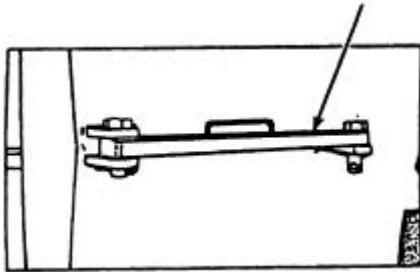
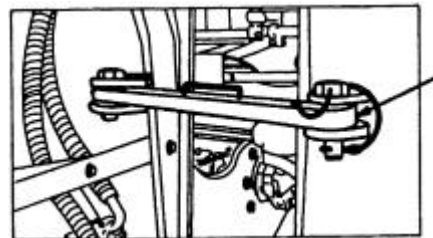

Fig. 3.1. Frame Locking Bar and Pins
Fig. 3.2. Frame Locking Bar and Pins
A frame locking bar and two pins (Fig. 3.1 and Fig. 3.2) - in stowed position are provided on the LH side of a loader. They are used to lock the front and rear frame of the loader to prevent accidental frame turning during service and lifting on lifting slings.
Prior to operating of the machine place the locking bar in the stowed position as shown in Fig. 3.1. Repair or replace the frame locking bar and pins if damaged or lost to ensure frame locking, Fig. 3.2.
4. Interlock the working system control lever and unlock the articulated frame by setting the connector in the neutral position as shown in Fig. 3.1.
Towing of machines equipped with ground driven system is easier. Prior to towing release spring parking brake (refer to PARKING BRAKE, Section 5) and unlock frames by placing locking bar in stowed position as shown in Fig. 3.1 Use chains or cables of adequate strength, be sure they are properly secured to the draw bar pin.